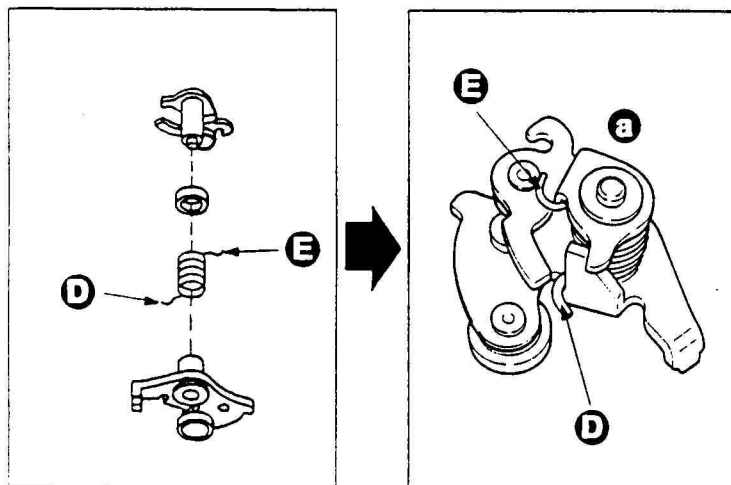

Fig.3
3. Subassemble the S. lever ass'y ① by hitching the hooks ④ and ⑤ of the spring as shown in Fig. 3, and then install to the substrate M.